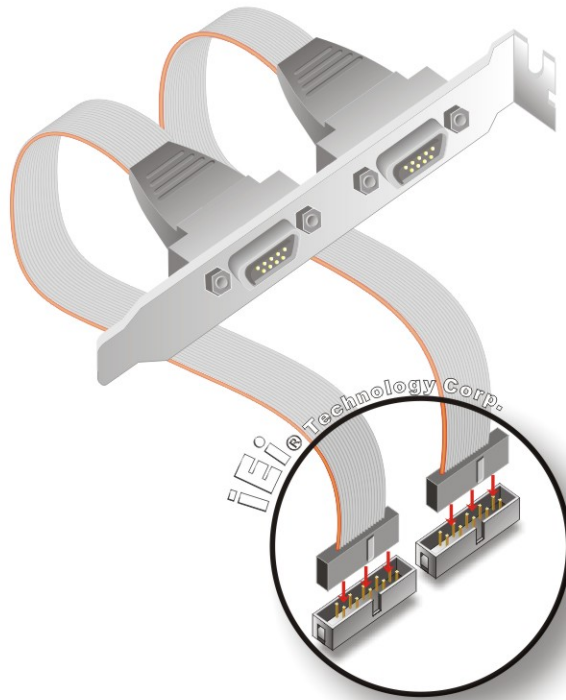

Figure 4-12: Dual RS-232 Cable Installation
Step 2: Insert the cable connectors. Insert one connector into each serial port box headers. See **Figure 4-12**. A key on the front of the cable connectors ensures the connector can only be installed in one direction.